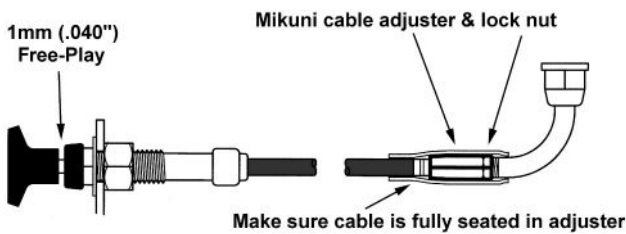

Figure 2: Choke cable adjustments
7. Loosen the knurled plastic friction nut behind the choke knob and check for free-play (see Figure 2).